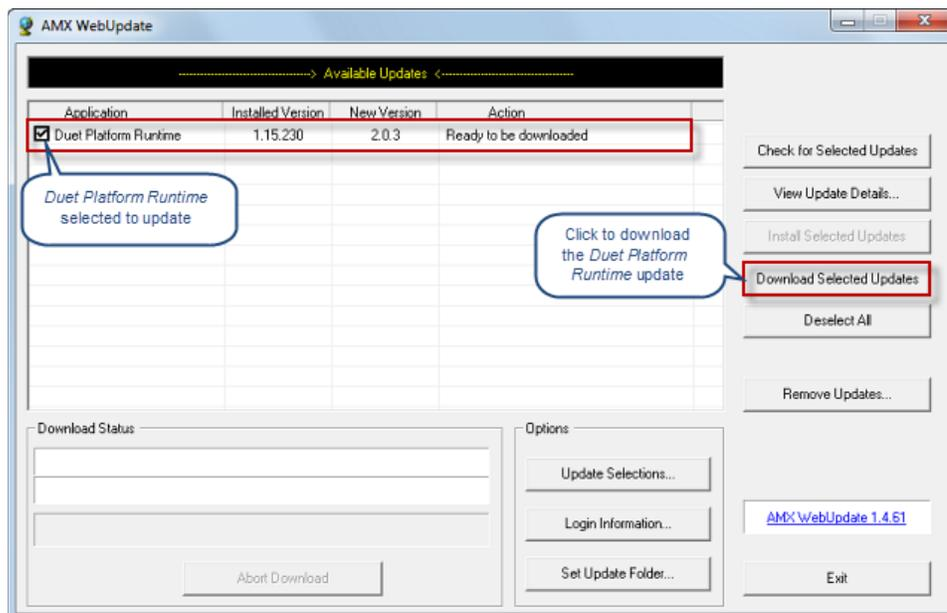

FIG. 96 WebUpdate - Duet Platform Runtime selected for update
- Click **OK** to close this dialog and return to the main work area. Note that *Duet Platform Runtime* is indicated in the update list (FIG. 96):